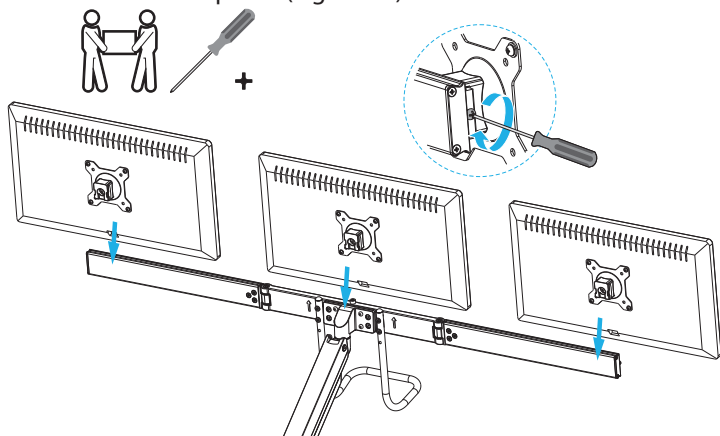

Figure 19
1. Mount the **Central Monitor** onto the **Crossbar, Center**. Mount the **Left** and **Right Monitors** onto the **Crossbar, Left** and **Right** respectively. (Figure 19)
2. Use a **Phillips Head Screwdriver** to tighten the **Screw** located on the holder for each of **VESA Monitor Mounts** to secure them in place. (Figure 19)